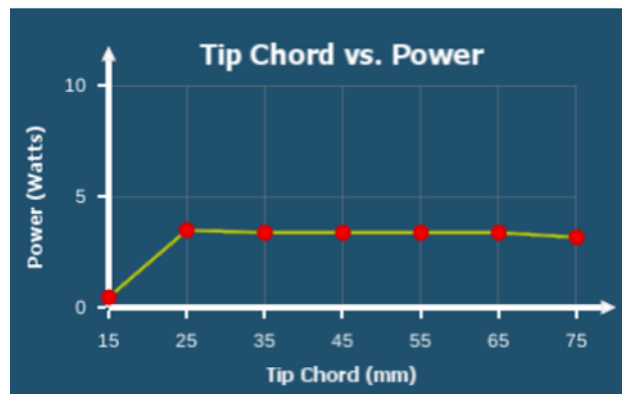

Figure 13: Blade chord experiment graph
4. Repeat steps 2-3 until you have tested all the blade spans listed. You should have a graph something like the one in Figure 13.